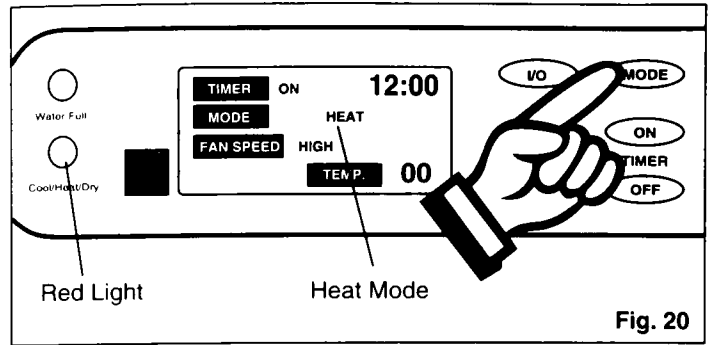

Fig. 20
- 1) Press the **MODE** key until the word **Heat** is displayed in the **LCD** window. *Fig. 20*. Each depression of the **MODE** key will advance to a different mode setting (**Cool-Heat-Dry-Fan**). The **red** indicator light will come on indicating the "Heating" mode is operational (there may be a slight delay of 5-10 seconds before the cycle begins, this is normal).